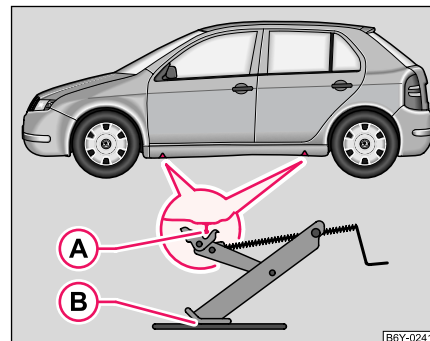

Fig. 145 Changing a wheel: Points for positioning car jack
- Position the lifting jack by selecting the jacking point - lower sill - which is closest to the wheel to be removed ⇒ page 201, fig. 145.